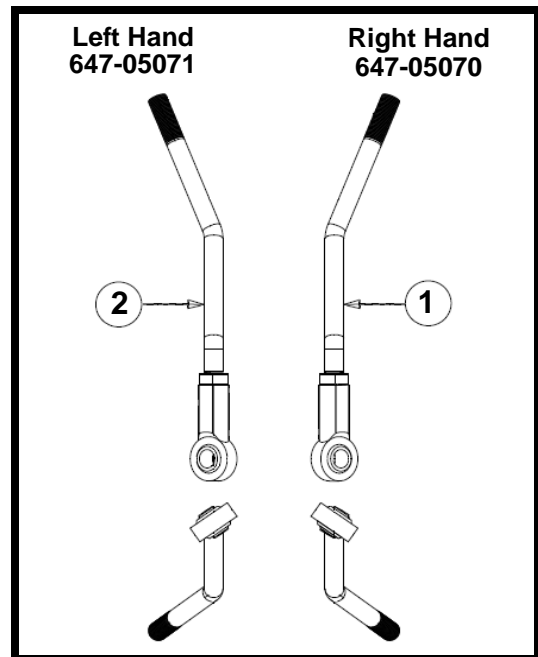

FIGURE 4
9. From the Service Kit, locate item #1 (**647-05070**) right hand drag link assembly. **NOTE: The drag link assemblies have the 5/8-18 ball joint and jam nut installed at the factory. Do Not loosen or adjust the assembled drag links. See figure 4.**